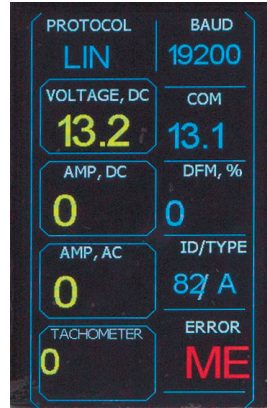

Fig. 11. Display data output when testing an alternator with COM (LIN, BSS) terminal
- **PROTOCOL:** voltage regulator protocol indicator (alternators with COM terminal only) (Fig. 11)
- **BAUD:** indicator of data exchange speed indicator of a voltage regulator (alternators with COM terminal only) (Fig. 11).
- **COM:** indicator of set generation voltage when testing alternators with COM terminal (Fig. 11).
- **ID/TYPE:** ID and voltage regulator type indicator (alternators with COM terminal only) (Fig. 11).
- **ERROR:** voltage regulator error indicator (alternators with COM terminal only) (Fig. 11).